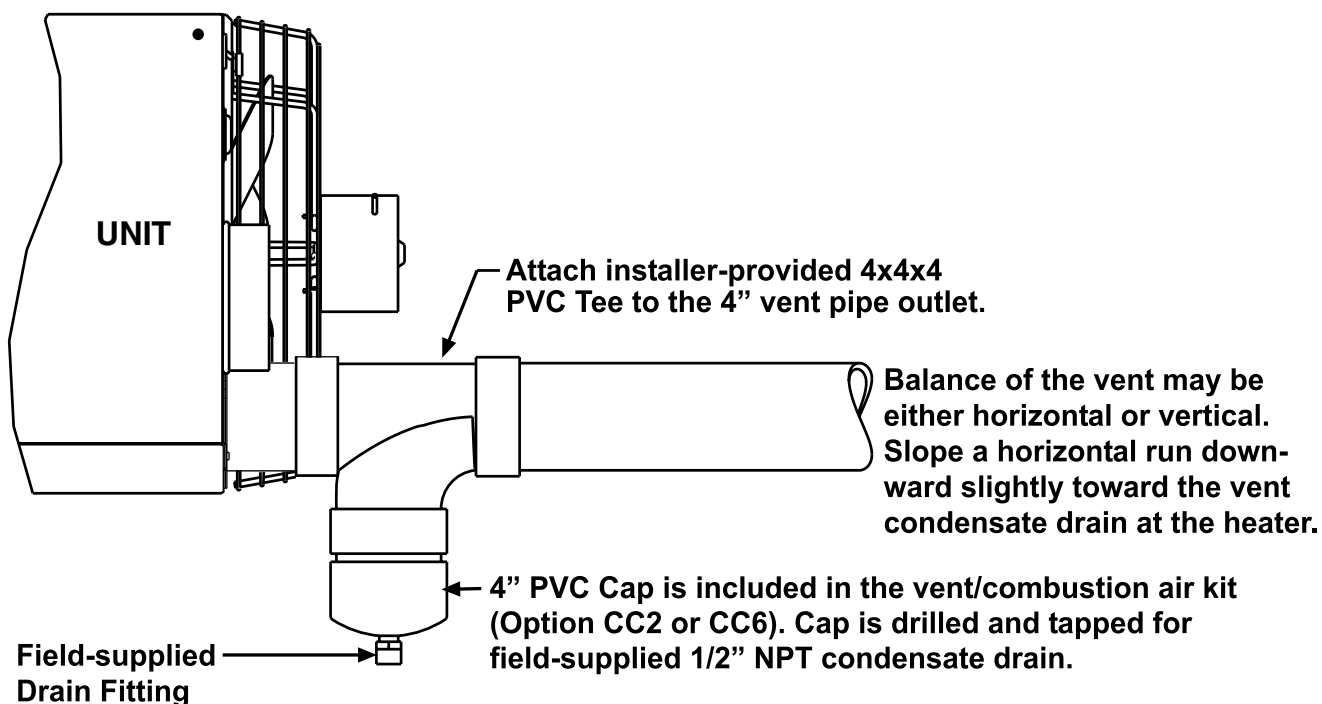

Figure 21. Installing Condensate Drain in Vertical or Horizontal Vent (US Installations Only)
- Instructions for installing a condensate drain connection with a vertical or horizontal vent (US INSTALLATIONS ONLY) in a horizontal vent run using the factory-provided 4-inch PVC cap are shown in Figure 21.